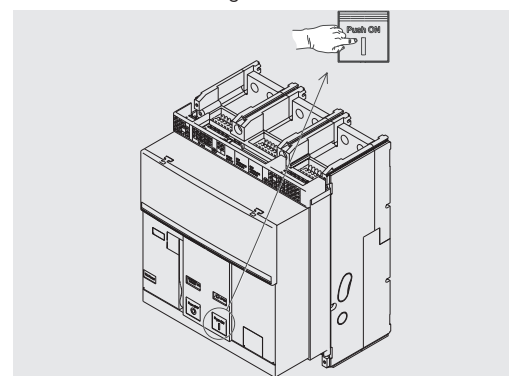

Figure 21
4. Closing - Press the closing pushbutton "I - Push ON" as indicated in Figure 21.